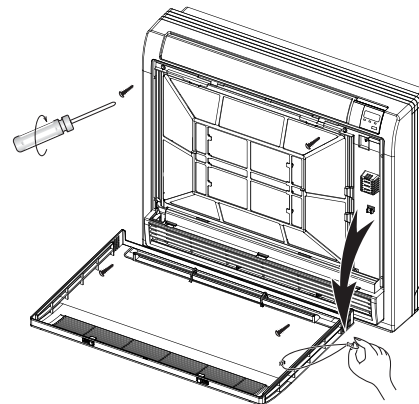

Fig. 10 — Remove the screws
2. Remove the front (see Fig. 10).